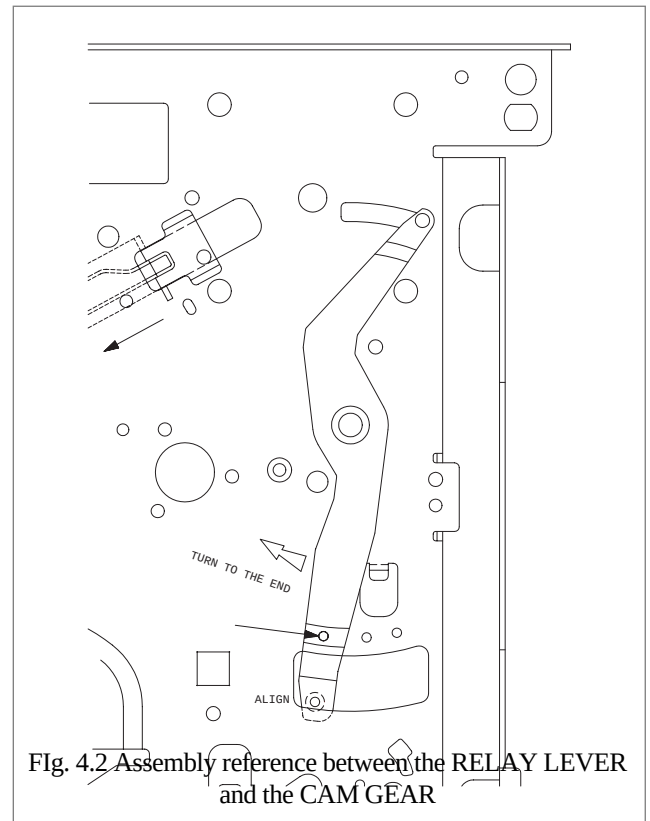

Fig. 4.2 Assembly reference between the RELAY LEVER and the CAM GEAR
- Make sure that the ending part “A” of the RELAY LEVER assembled on the CONNECT PLATE is aligned with the reference hole “B” of the MAINBASE as shown in Fig. 4.2.